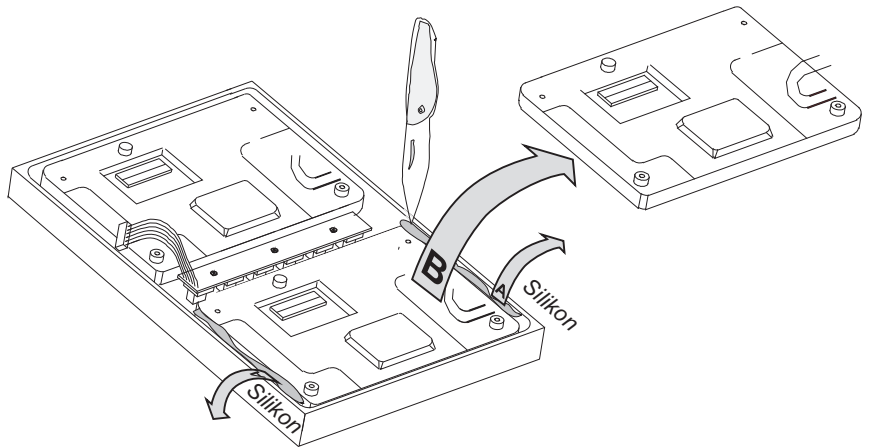

Fig. 8-28: Removing the broken display
11. Remove carefully the fixing silicone (fig. 8-28, A) and disassemble the broken display (fig. 8-28, B).